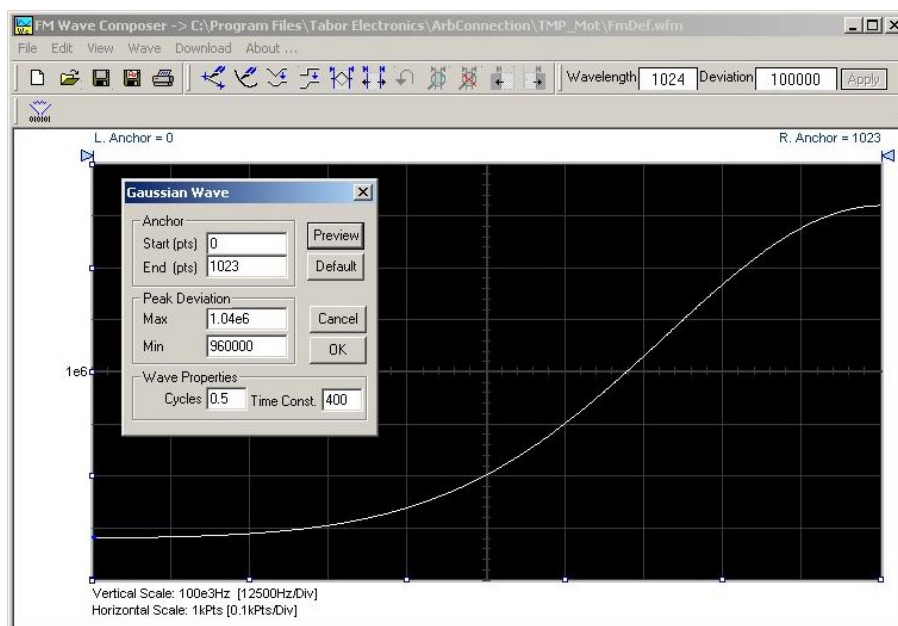

Figure 3-27, Using ArbConnection to Generate Arbitrary Modulating Waveforms
**FM Sample Clock** – programs the sample clock for the arbitrary modulating waveform. Do not confuse sample clock setting with the FM sample clock setting as these are two parameters that derive from two independent generators. This is extremely convenient in cases where you want to modulate an arbitrary waveform with an arbitrary modulating waveform. An FM composer example of an arbitrary modulating waveform is shown in Figure 3-27.